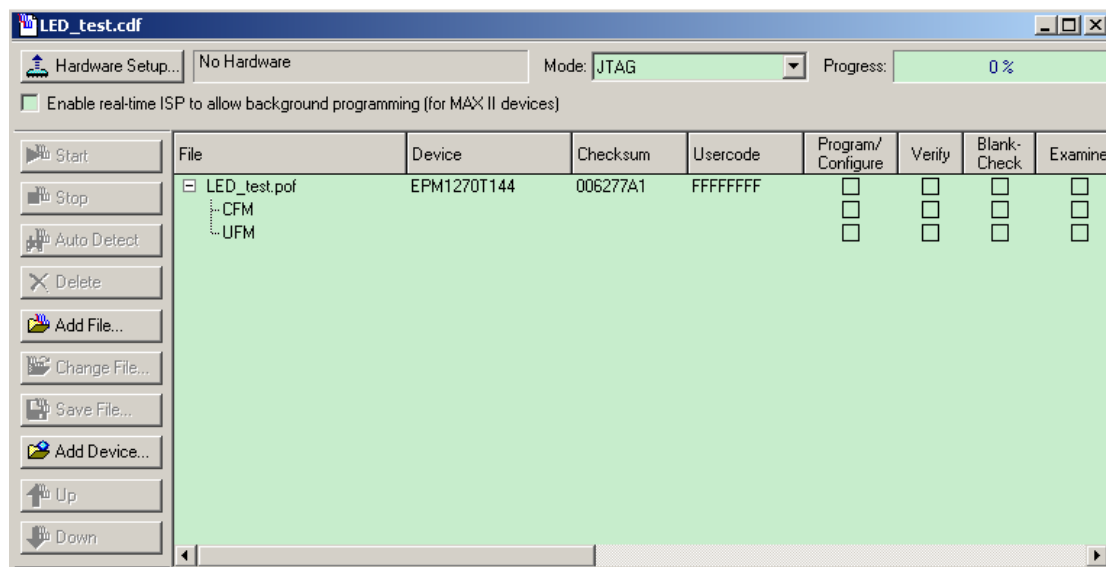

Figure 12 Quartus II Program window
- (3) Press icon  to compile the project.
- (4) Press icon , and reach the window in Figure 12.